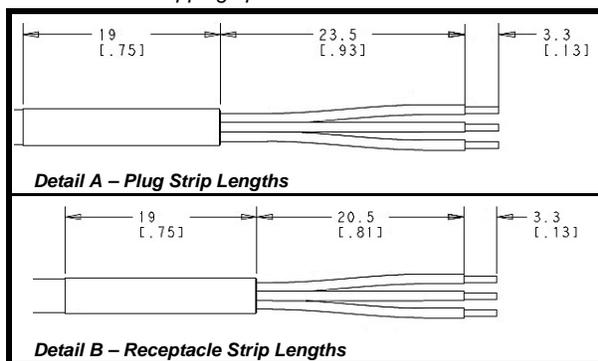

Figure 1
- Strip the cable jacket and individual wires' insulation, then roll the cable EMI braid back to the lengths shown in Figure 1. Refer to Detail A for Plug dimensions and Detail B for Receptacle dimensions.